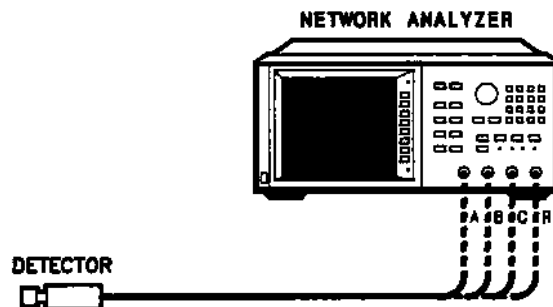

Figure 4-4. Detector Control Circuitry Test Setup
3. Connect the detector to input A of the analyzer as shown in figure 4-4. Note the CHAN A SENSE and DRIVE voltages displayed. With the detector connected to the input, the SENSE voltage drops to one half of the DRIVE voltage $\pm 3\%$. Record the results as PASS or FAIL on the performance test record card for CHAN A SENSE.